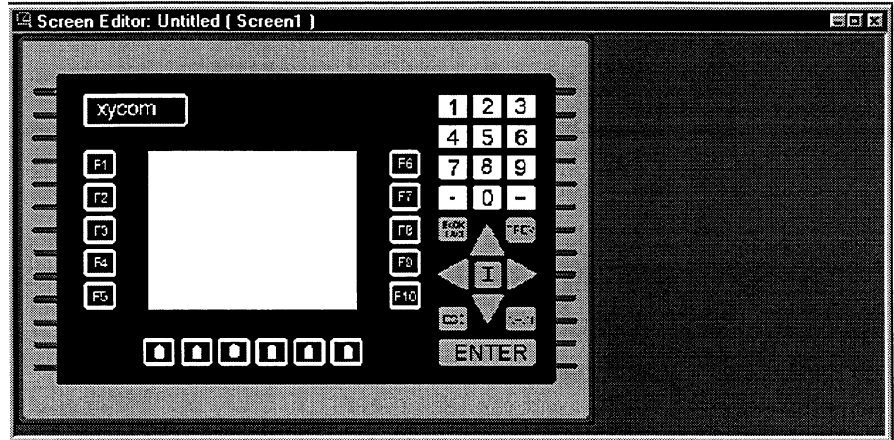

Figure 6-3. Graphic Editor with Bitmap of 3100 Front Panel Visible
- Select Screens from the Graphic drop-down list box in the Application Navigator form, then double-click on the desired screen name in the associated list box. A Graphic Editor window opens, displaying the selected screen, as shown in Figure 6-3.